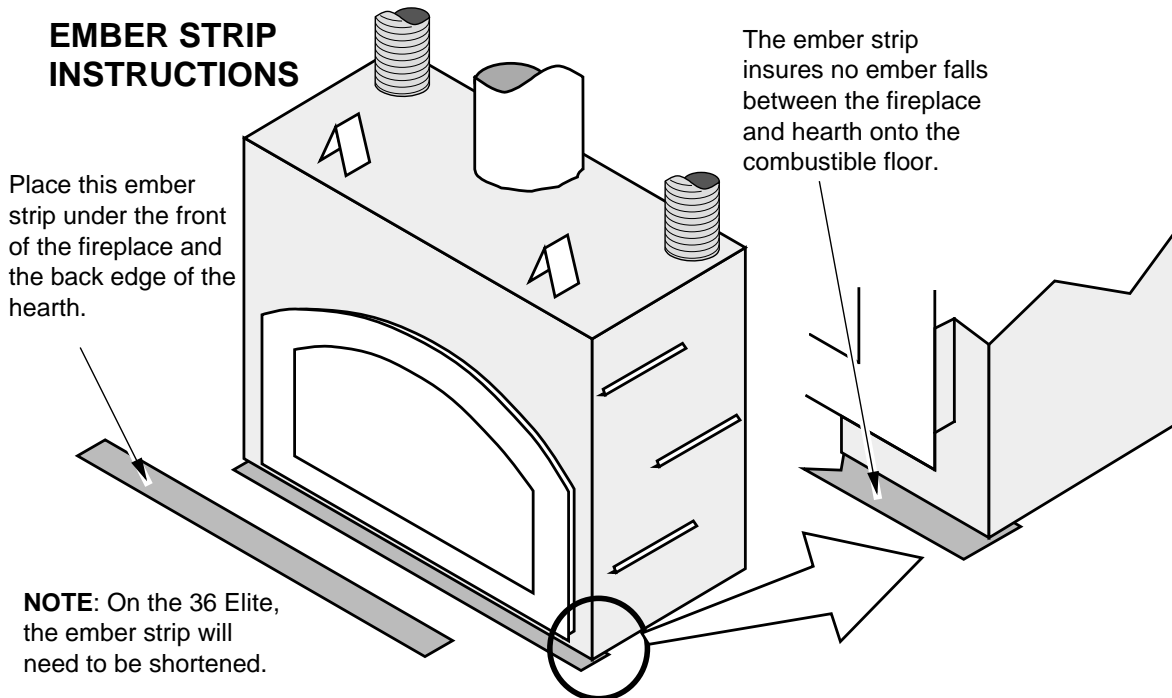

Figure 10
- Place the ember strip included with the fireplace below the front edge of the fireplace (see Figure 10).